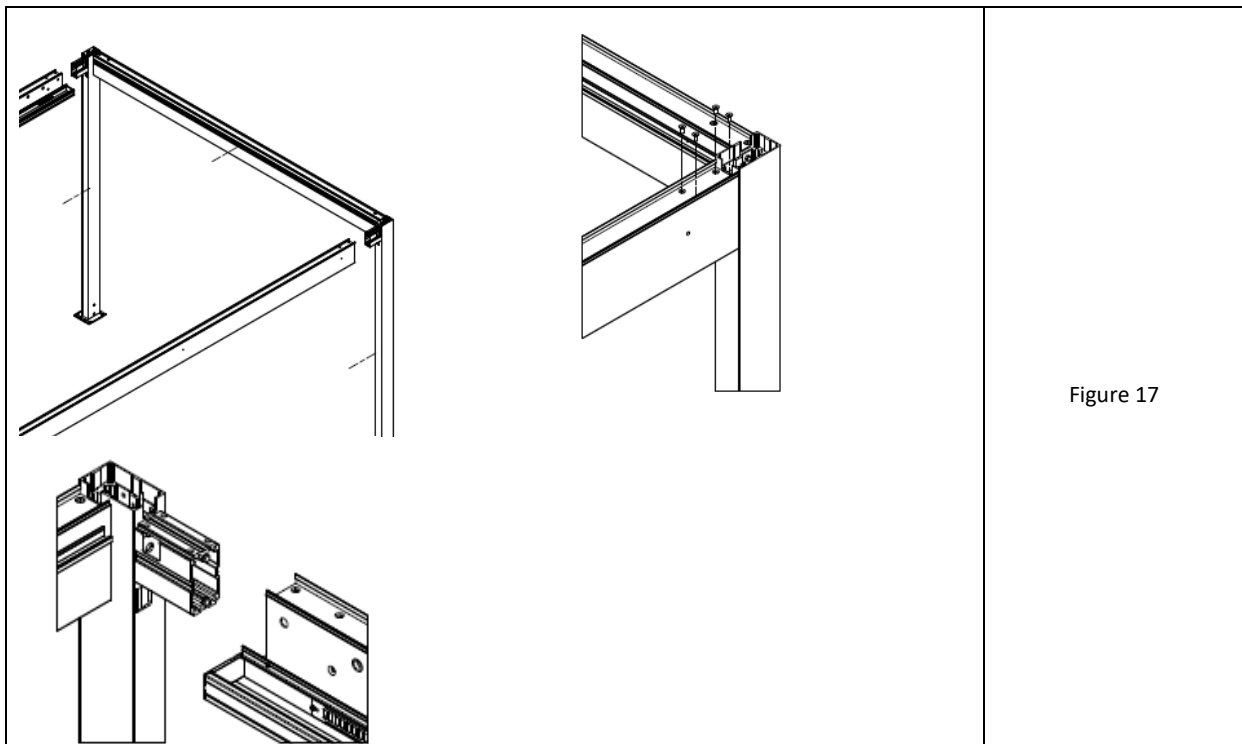

Figure 17
6. Screw the ends of the lengthwise beams inserted into the bones of the cross-frame from the side of the upper chamber of the beam using M8 x 20 conical screws with an Allen socket, according to fig. 17.
- Note:** posts with the outflow have a square hole under the bone (fig. 17 bottom). When the lengthwise beams are being inserted, rectangular drain profiles protrude from the beams at its ends. When embedding, they should be carefully inserted into the post profile.